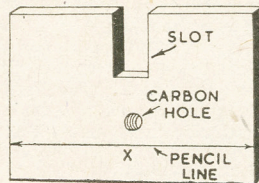

Fig. 4—The back support
A piece of plywood about 4ins. square is required for the base and two pieces of wood 1in. by $\frac{1}{2}$ in. by 4ins. act as side supports. These may be pinned or glued into position. A stout piece of wood about $\frac{1}{2}$ in. thick is chosen for the back support, and after it has been cut to suit the base it is prepared, as shown in Fig. 4. Its height should be such that the portion projecting above the base—(X) in Fig. 4—is about 2ins. greater than the length of the sharpened rod.